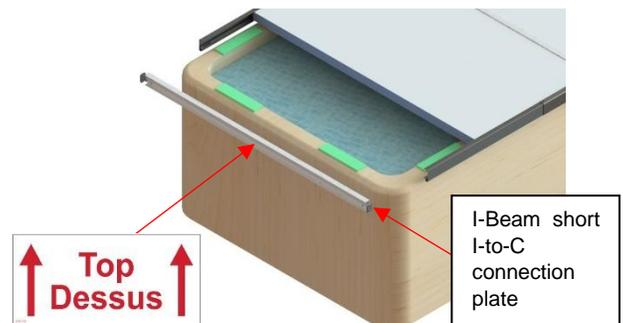

Figure 71
28) Slide the I-Beam with the short I to C connection plates in the C-Channels with the bent portion pointing inwards (Figure 71).